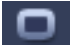

Figure 3-51
- a) From Main menu->Setting->Event->Video detect, you can go to the following interface. See Figure 3-51.